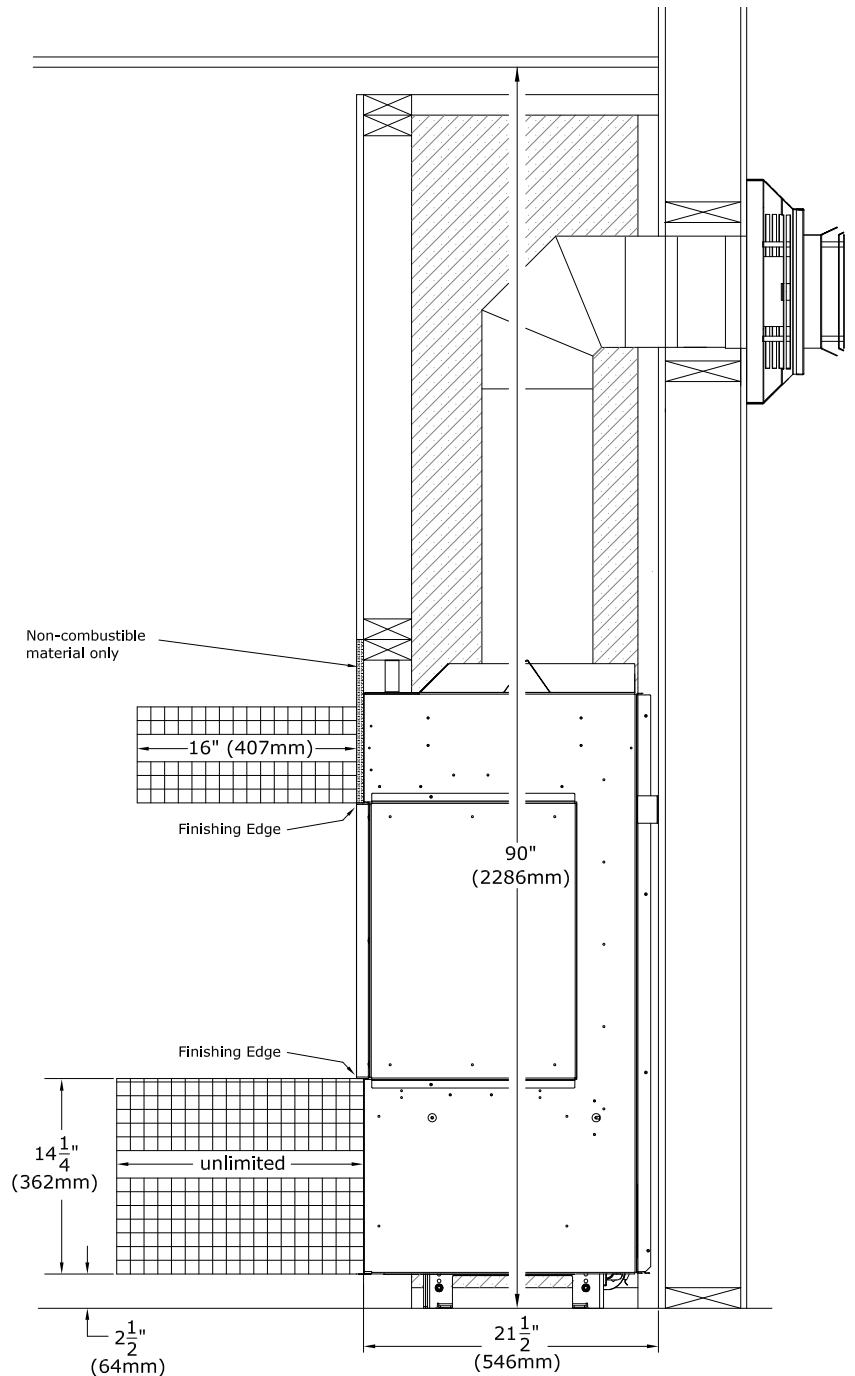

Figure 2.22 - Mantel Projection and Hearth Projection
- **Combustible Mantel Projections:** A maximum of a 16" (406mm) mantel can be installed flush at the side and top finishing edge. See Figure 2.22.
- **Combustible Hearth:** Combustible hearth can have an unlimited projection. Hearth can be raised flush to the bottom finishing edge. See Figure 2.22.